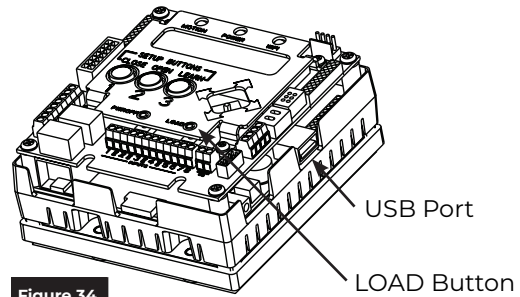

Figure 34
2. Insert the USB drive into the USB port on side of the inverter. (Figure 34)
3. Press and hold the LOAD button for 3 seconds and release when all LEDs light up. (Figure 34)